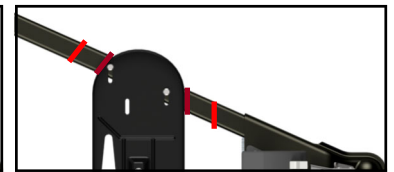

FIGURE C2: Top of A-frame with propane tank tray.
- If present you may need to remove the propane tank tray. In some cases, it may not need to be removed if there is enough space between the tray and the rear edge of the coupler (2.5" or more). Before the tray is removed, mark the edges of the tray on the trailer frame so it can be reinstalled in the same location, **as shown in Figure C2**. These marks will be referenced when mounting the pump.